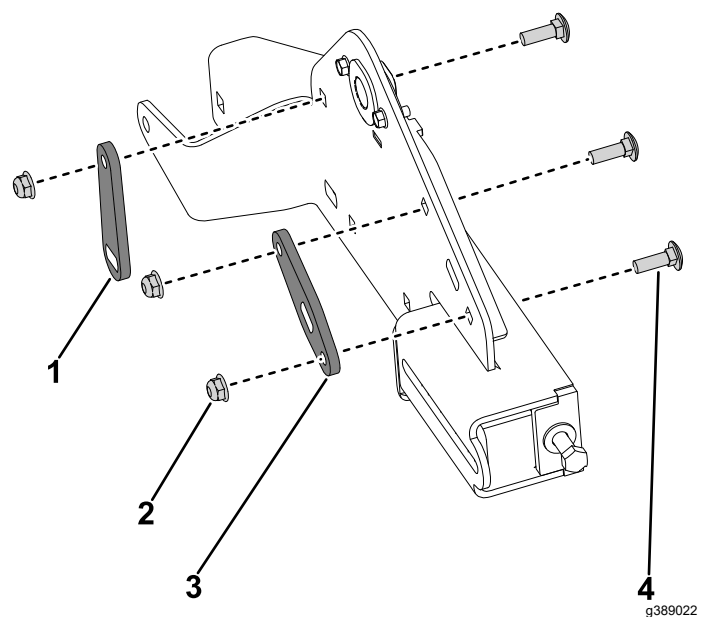

Figure 29
4. Install the new pivot bar plate to the track support, secure with 2 new carriage bolts (5/16 x 1 inch) and 2 locknuts (5/16 inch) (Figure 29).
5. Install the new support plate to the track support, secure with the new carriage bolt (5/16 x 1 inch) and locknut (5/16 inch) (Figure 29).